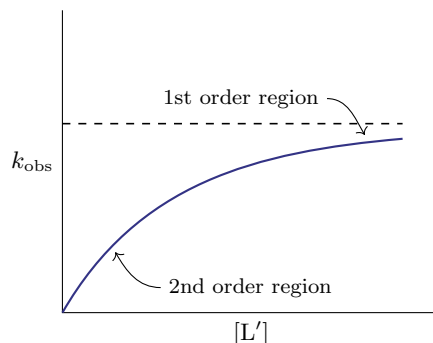

Figure 2.13: The effect of $[\text{L}']$ on rate.
– If we plot k_{obs} vs. $[\text{L}']$, we get Figure 2.13.